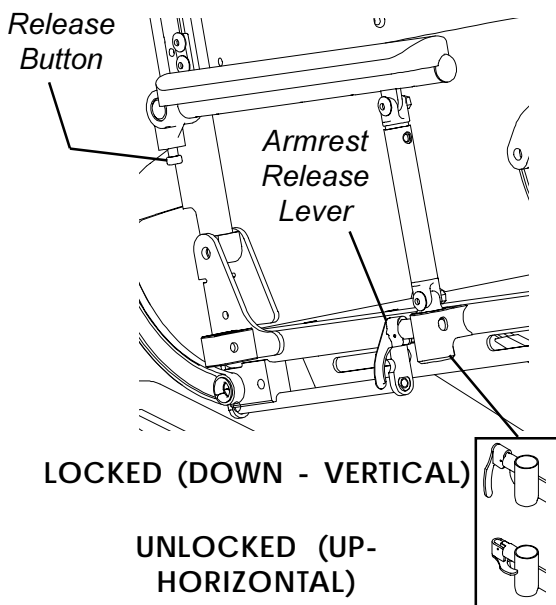

FIGURE 1 - REMOVING/INSTALLING ARMRESTS
Removing Armrests (FIGURE 1)
Installing Armrests (FIGURE 1)
1. Position the armrest on the seat frame as shown in FIGURE 1.